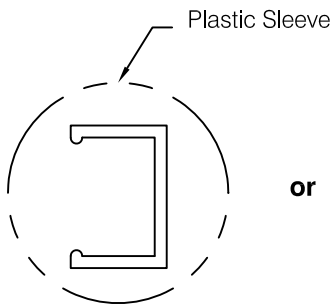
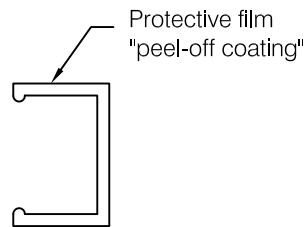

fig 3a
fig 3b
- Note:* The aluminum is supplied in a plastic sleeve, see **fig 3a**, or with a protective “peel-off” coating on one side, see **fig 3b**, to prevent damage to the anodized surface. Be sure to orient the best surface or “peel-off” coating toward the most exposed or visible direction.